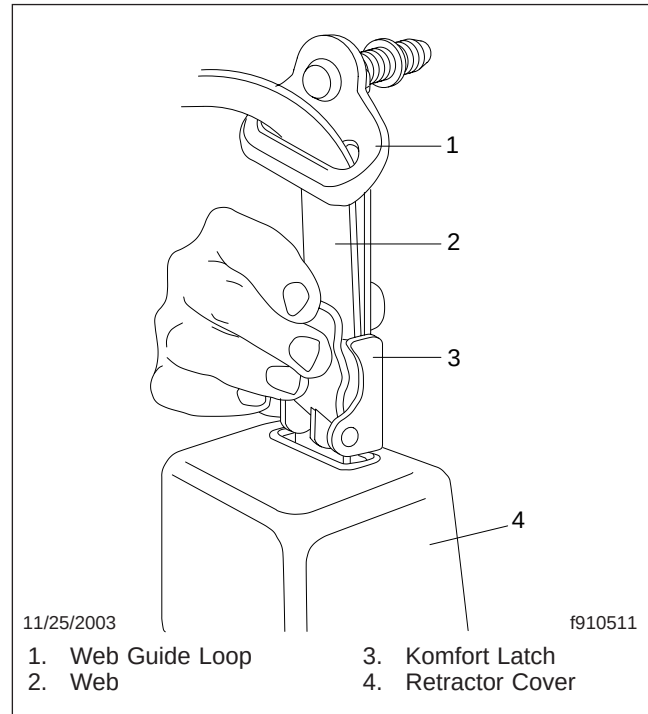

Fig. 4, Lock the Komfort Latch
4. Pull all the webbing out of the retractor, and allow only 12 to 15 inches (304 to 381 mm) to retract. Lock the Komfort Latch on the web; see Fig. 4.